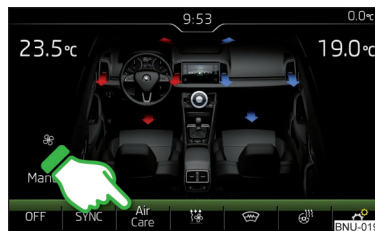

Fig. 160
- To **switch on/off**, press the **MENU** button on the Climatronic control panel, and then tap on the function surface **Air Care** → **Active** on the Infotainment screen» Fig. 160.